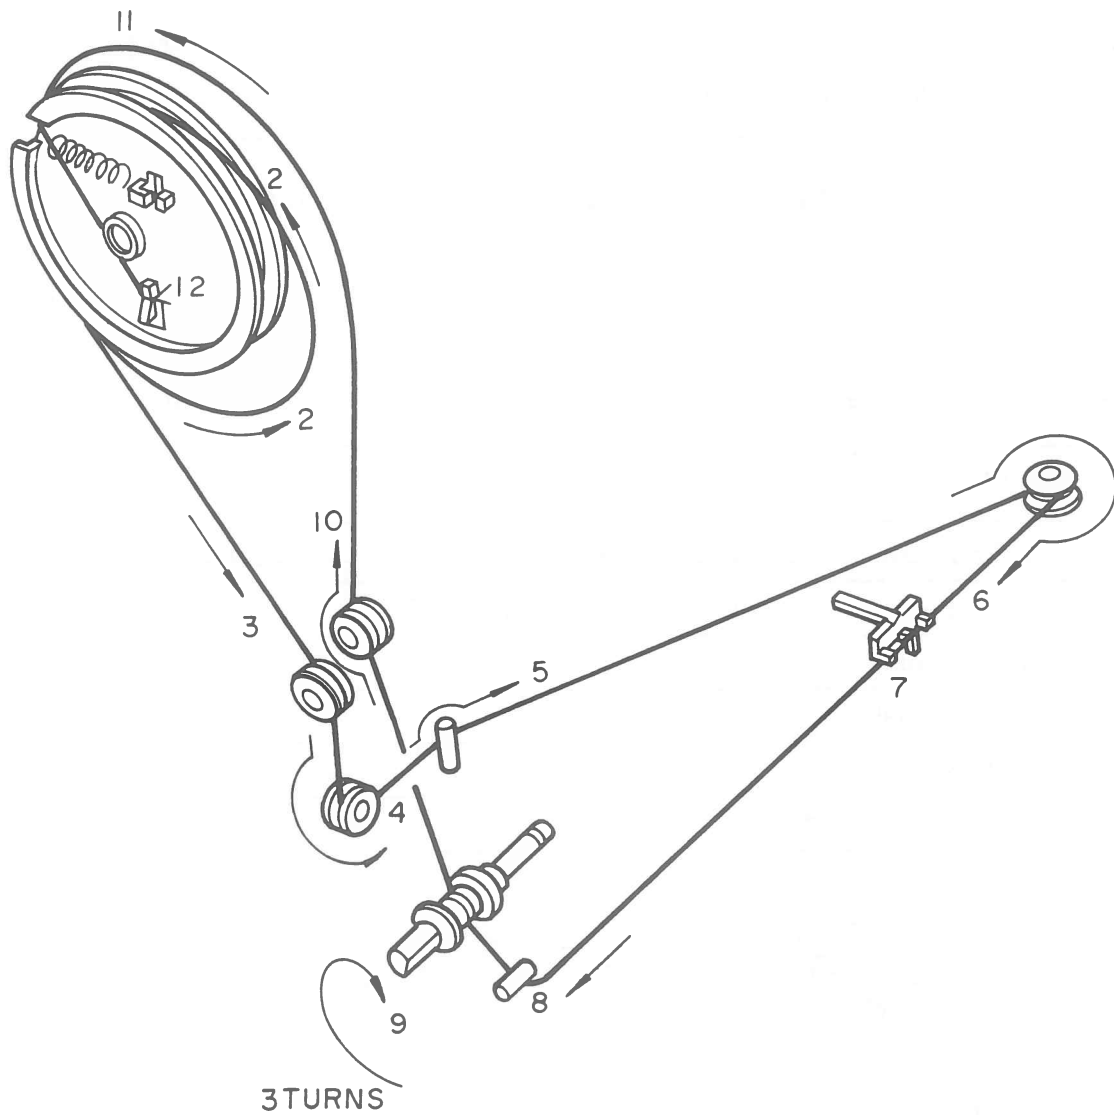

Figure 18 Radio dial cord Stringing
1. Referring to figures 18 and 19, loop the dial cord in the direction of arrows.